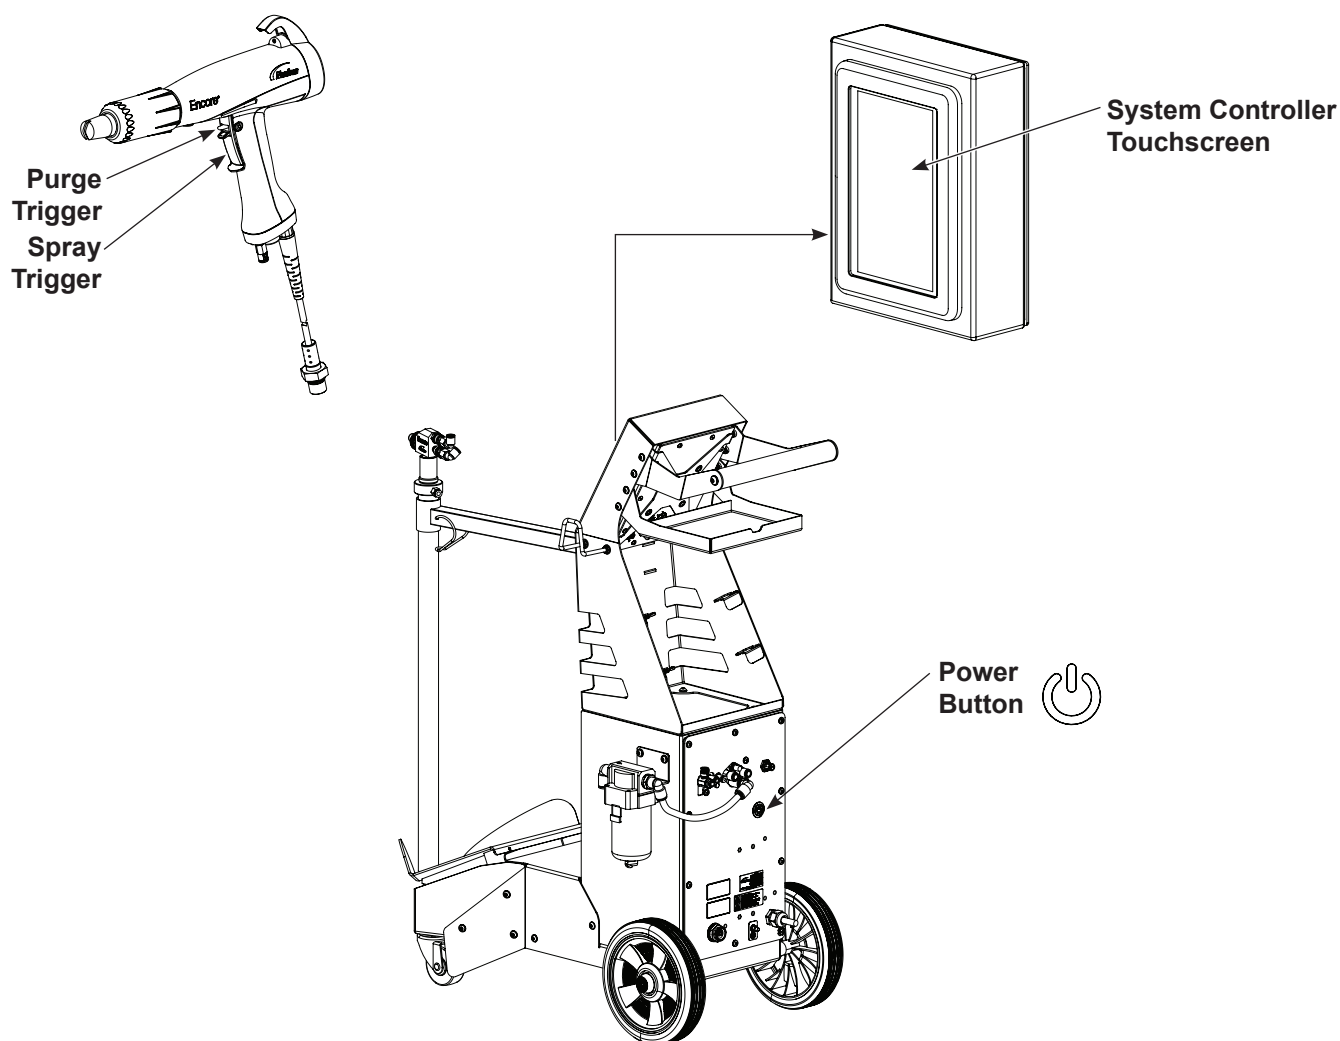

Figure 4-4 System Controls
4. See Figure 4-4. Make sure the spray gun is not triggered, then turn ON system power . The system controller touchscreen should light.
See Figure 4-4.